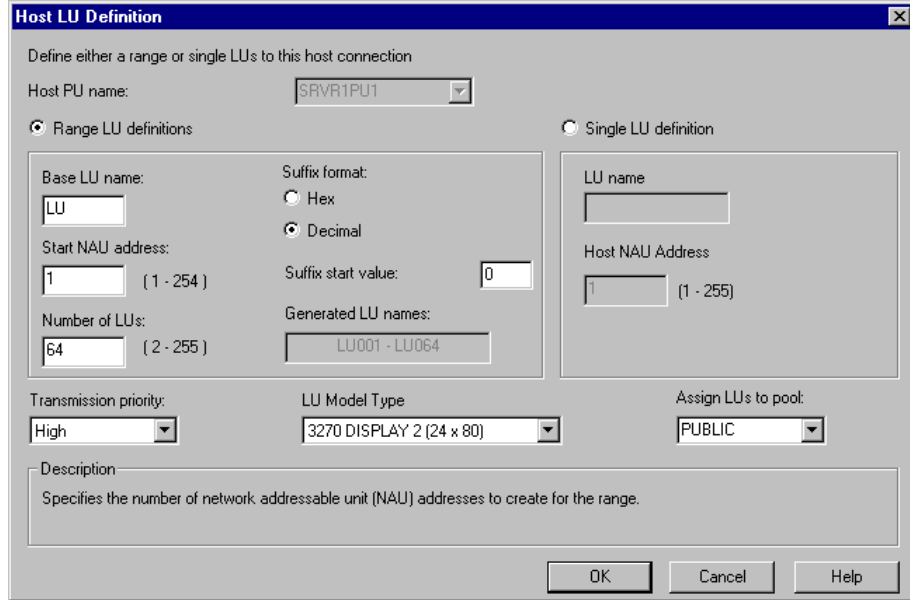

Figure 7-25. LU Definition
6. The Communications Server for Windows NT LU Definition screen is displayed (Figure 7-25). Complete the screen as directed by Communications Server documentation and click OK at the bottom of the screen to create the LUs.